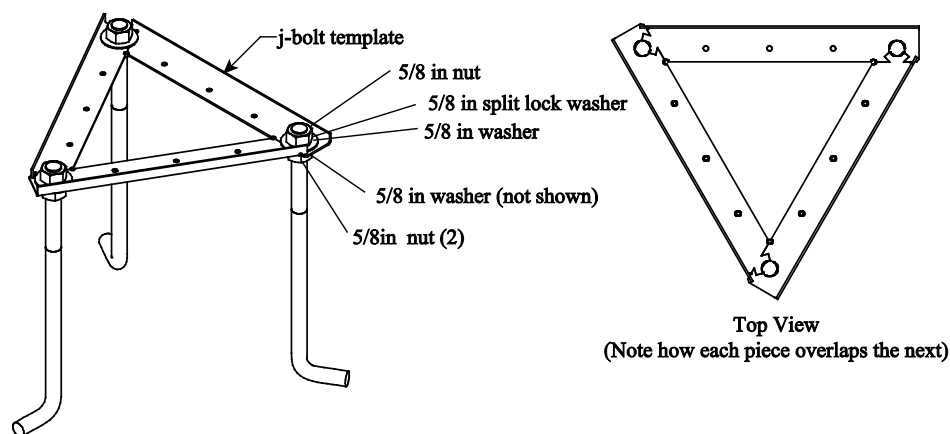

FIGURE 7-2. J-bolt Template Assembly
2. Assemble the J-bolt template as shown in FIGURE 7-2. Begin by threading two 5/8 inch nuts onto each J-bolt, followed by a 5/8 inch washer. Next, place a template piece over the J-bolt, followed by another 5/8 inch washer and a 5/8 inch split lock washer. Thread a third 5/8 inch nut onto the J-bolt just until the bolt is even with the top of the bolt. Once all three J-bolts are assembled, slide them together as shown in FIGURE 7-2. Align each J-bolt so the angled portion is pointing outward and tighten the lower nuts to secure the assembly.